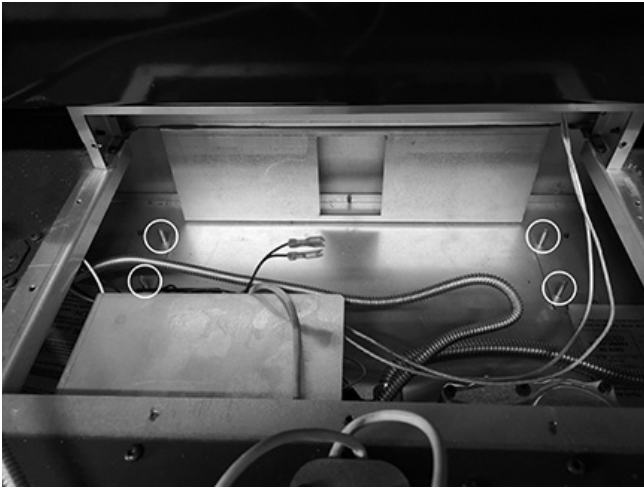

Figure 64: Studs for blower assembly.
10. Place the blower assembly into the back of the control compartment under the firebox and onto the studs shown in Figure 64.